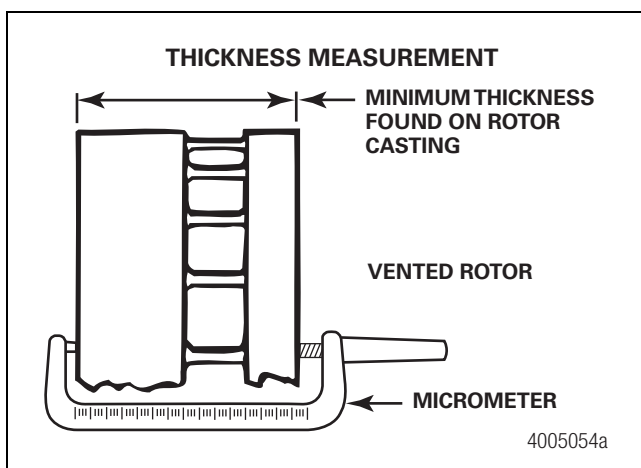

Figure 6.7
1. Use a micrometer to measure the rotor thickness. If you are replacing the brake pads, the rotor should be replaced if the rotor thickness is less than the minimum discard thickness found on the rotor casting. Figure 6.7.